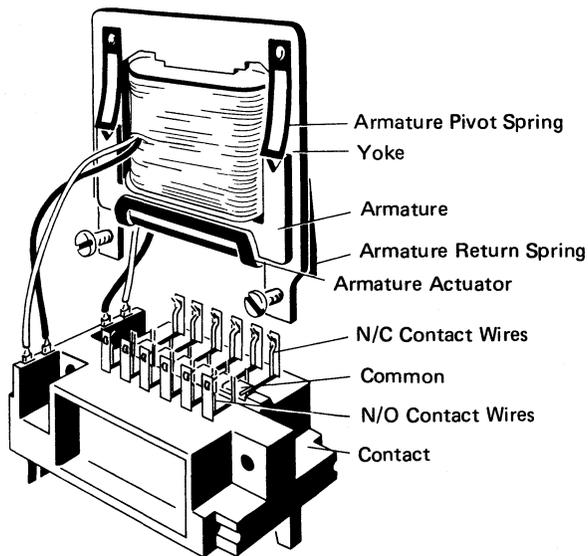

Figure 2-15. Permissive Make Relay
The permissive make (PM) relay is a fast working multiple-transfer contact relay capable of higher speeds and higher work load capacities. See Figure 2-15 for the components of a six-position relay.